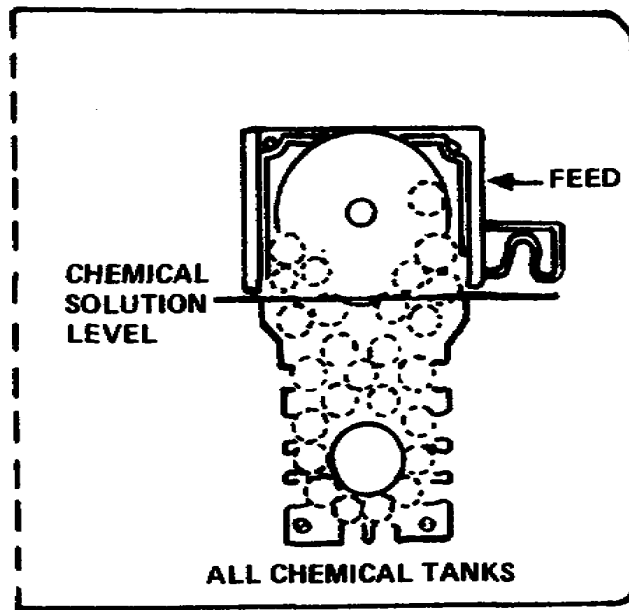

Figure 1-6. Roller-transport system
a. In the roller-transport system the paper is guided through the machine by a series of rollers that are placed in a staggered pattern (fig 1-6). This type of system is usually found in the smaller type processors but can also be found in some of the larger floor models. The size (width) of the paper to be processed is only dependent upon the maximum width allowed by the processor.